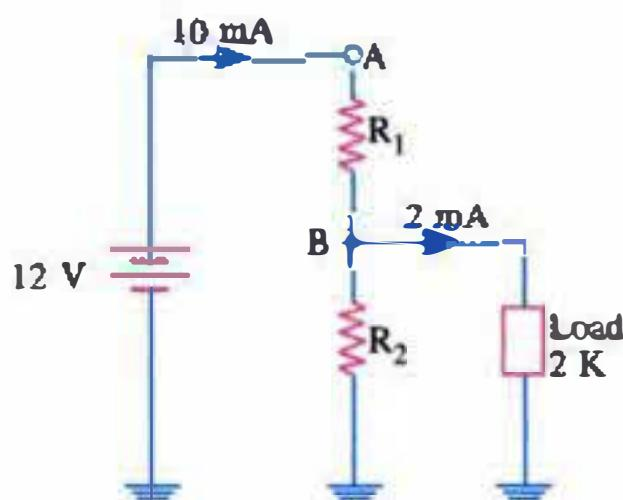

Fig. 2.39
5. In the series voltage-divider circuit of Fig. 2.39, rated load current is 2 mA and maximum current the battery can supply is 10 mA. Calculate the values of resistances  $R_1$  and  $R_2$  and their power ratings. [500  $\Omega$ ; 800  $\Omega$ ; 3 mW; 80 mW]